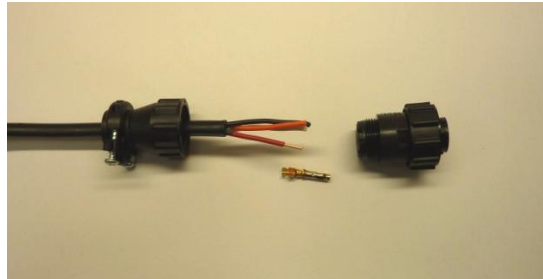

Figure 21: Slide connector onto cable before crimping.
Step 2: Slide the circular socket connector over the power cable as shown in Figure 21.